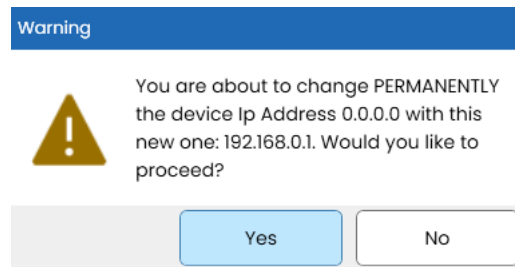
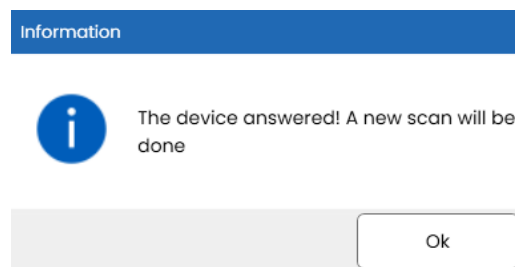

Figure 8.27: Pop-up that warns of permanent IP change.
Figure 8.28: Pop-up that informs new device detected.
Then click on *Change Ip Address* button ④ and confirm your choice (see Figure 8.27). Subsequently another pop up will appear to notify the response from the new device and therefore the start of a new scan (see Figure 8.28).